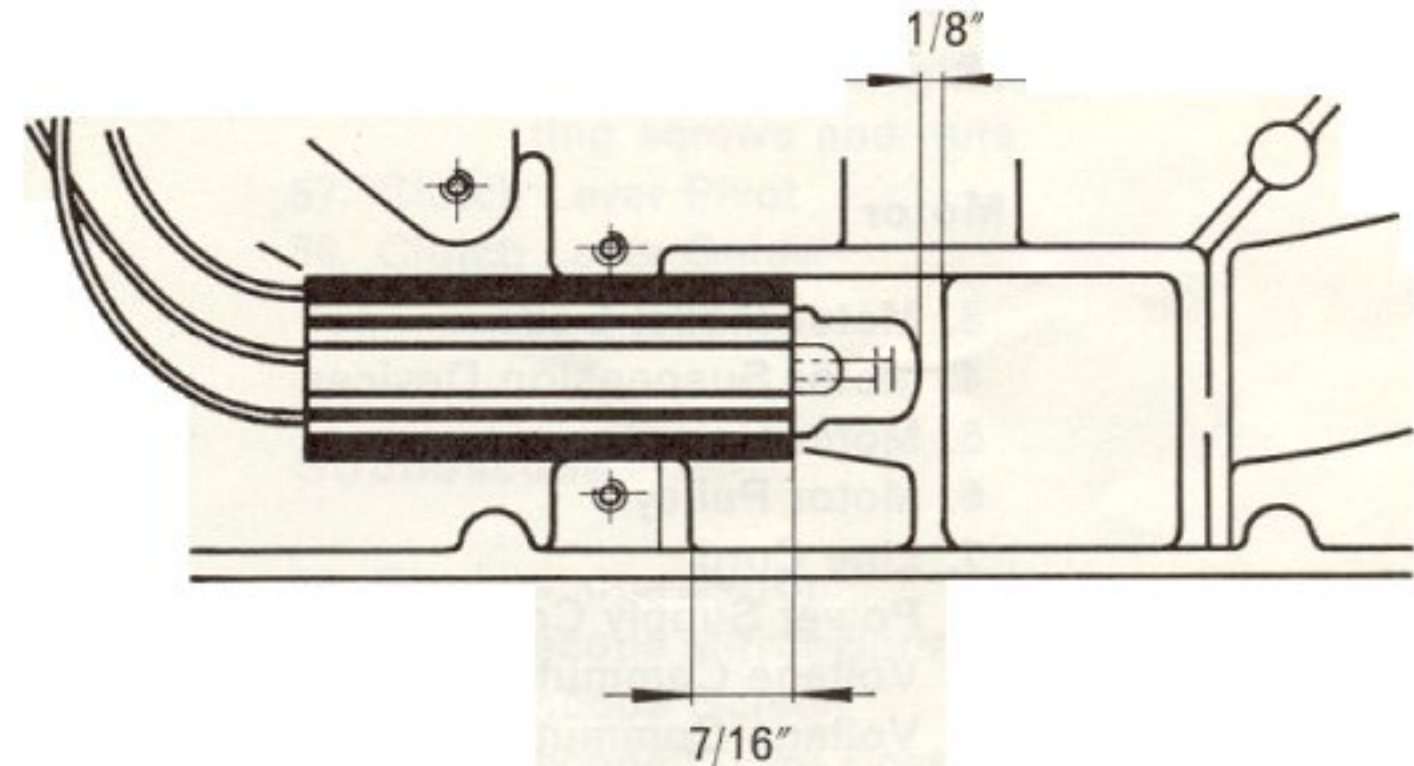

Fig. 9: Neon bulb.
6. See Fig. 9 for the exact location of the bulb assembly.